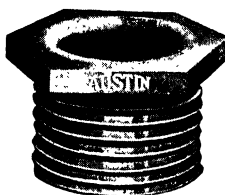

Fig. 19. Chase or Conduit Nipples
**Chase Nipples.** When it is necessary to mount a box or cabinet, with conduit entering from two opposite sides, so that it can be removed without moving the conduits, or if a fitting with a female-threaded hub is to be mounted directly against the box, connections can be made with Chase nipples, as shown in Fig. 19. In the latter case the Chase nipple is passed through the hole in the box and screwed tight into the fitting. In the former case, a coupling on the conduit is butted up against the box and the Chase nipple is screwed into the coupling, the side of the box being clamped tightly between the end of the coupling and the shoulder of the nipple.